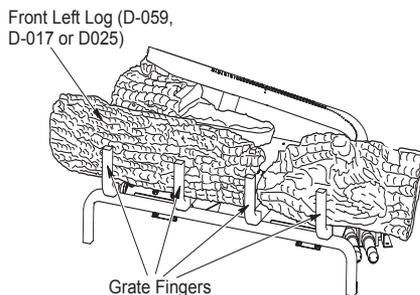

Figure 24 - Installing Front Left Log
3. Find the front left log (VFGT24 inch models: D-059 or VTGF30 inch models: D-017 or VFGT36 inch models: D-025). See Figures 24, 24A, and 24B. The log has a rectangular stand off on the bottom that fits against the lip on the black metal base as shown in figure 24A. The bottom of this log has a slot that fits over the second bar on the grate as shown in Figure 24B, page 19. Place the log on the base assembly as shown in figures.